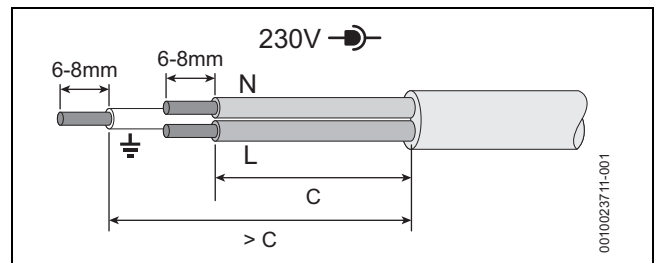

Fig. 61 Power supply (power cables) preparation
**Power supply (power cables), example → figure 61**
- ▶ Ensure the conductors (C) can reach the appropriate terminal connection and that the protective (earth) conductor is longer than the other wires.